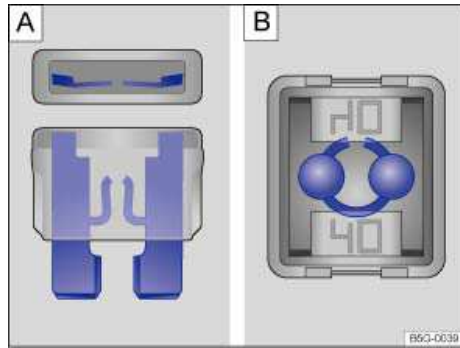

Fig. 171 Blown fuse: A: Blade fuse. B: Cartridge fuse.
- A blown *blade fuse* (ATO, MINI) has metal strips that have burned through, which you can see through the transparent housing from above and from the side ⇒ fig. 171 A.
- A blown *cartridge fuse* (JCASE) has metal strips that have burned through, which you can see through the transparent housing from above ⇒ fig. 171 B.